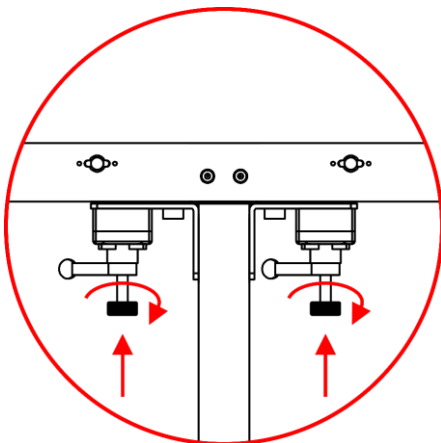

Fig. 09
- 02) Push the **spring-loaded fast-locks (14)** and turn them by 90° clockwise or counterclockwise (Fig. 09). Make sure that the pins are firmly locked.